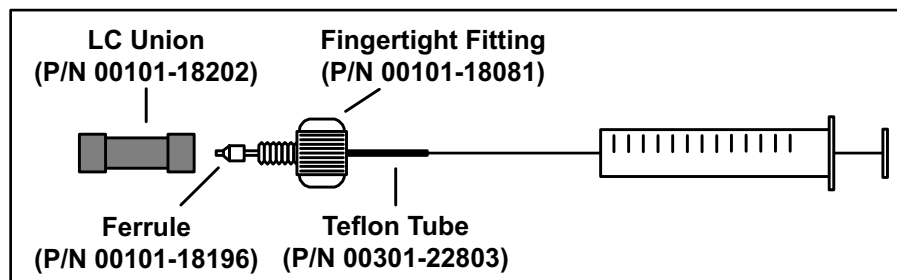

Figure 55. APCI/MS plumbing connections for the syringe pump
1. Connect a 4 cm (1.5 in) segment of Teflon tubing with a fingertight fitting (natural color) and a ferrule to the (black) LC union. See Figure 55.